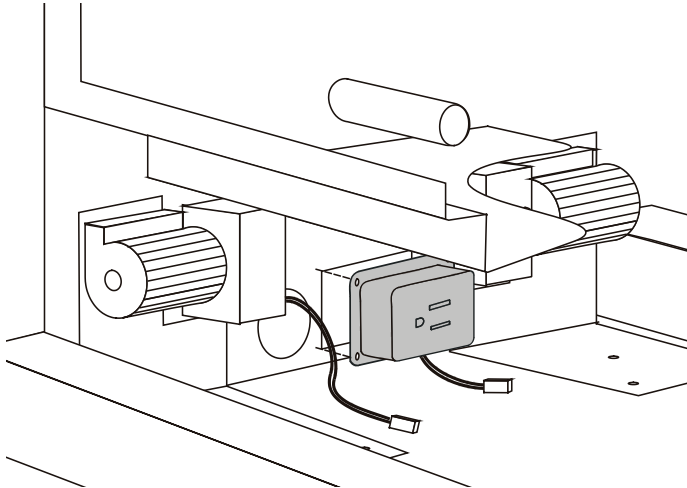

Figure 3. Installing the Power Outlet (PPO) box.
3. If the Power Outlet (PPO) box has not been factory installed, ensure that the **household electrical supply is shutoff** at the breaker or fuse, and connect the two wire leads from the PPO box to the household electrical supply. Screw the box into place as shown in Figure 3.